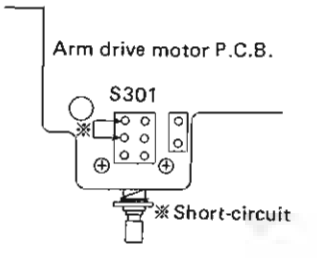

Fig. 29
2. Short-circuit the reset switch (S301), (See Fig. 29)